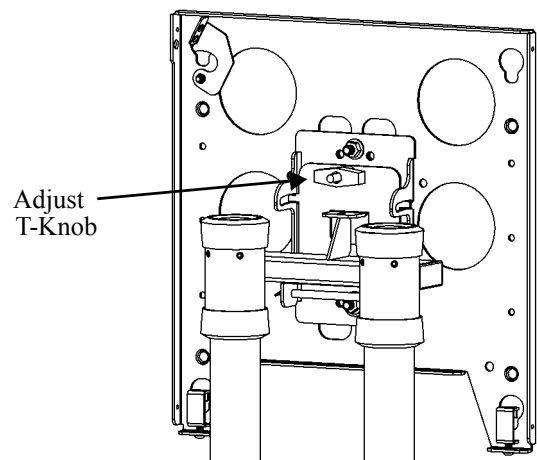

Figure 5. Adjust Pitch
- a. Adjust pitch downward by turning the T-knob counterclockwise. For T-knob location, see Figure 5.